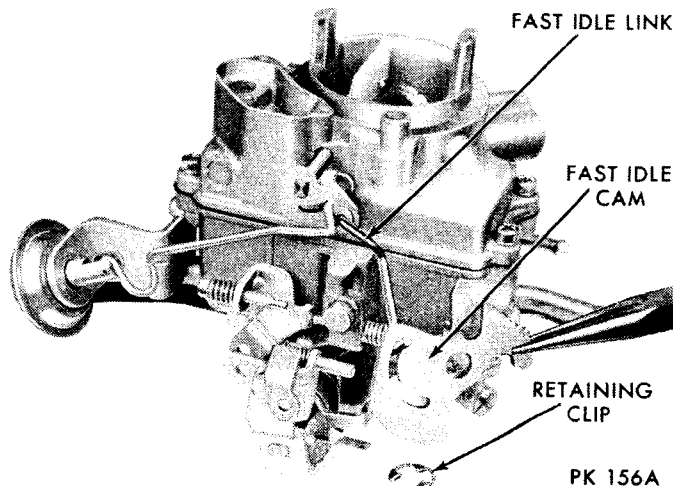

Fig. 8—Removing or Installing Fast Idle Cam and Link
(1) Place carburetor assembly on repair stand to prevent damage to throttle valves and to provide a suitable base for working.
(2) Remove the fast idle cam retaining clip, fast idle cam and link. Disconnect link (Fig. 8).
(10) Install fast idle cam and link (Fig. 8).